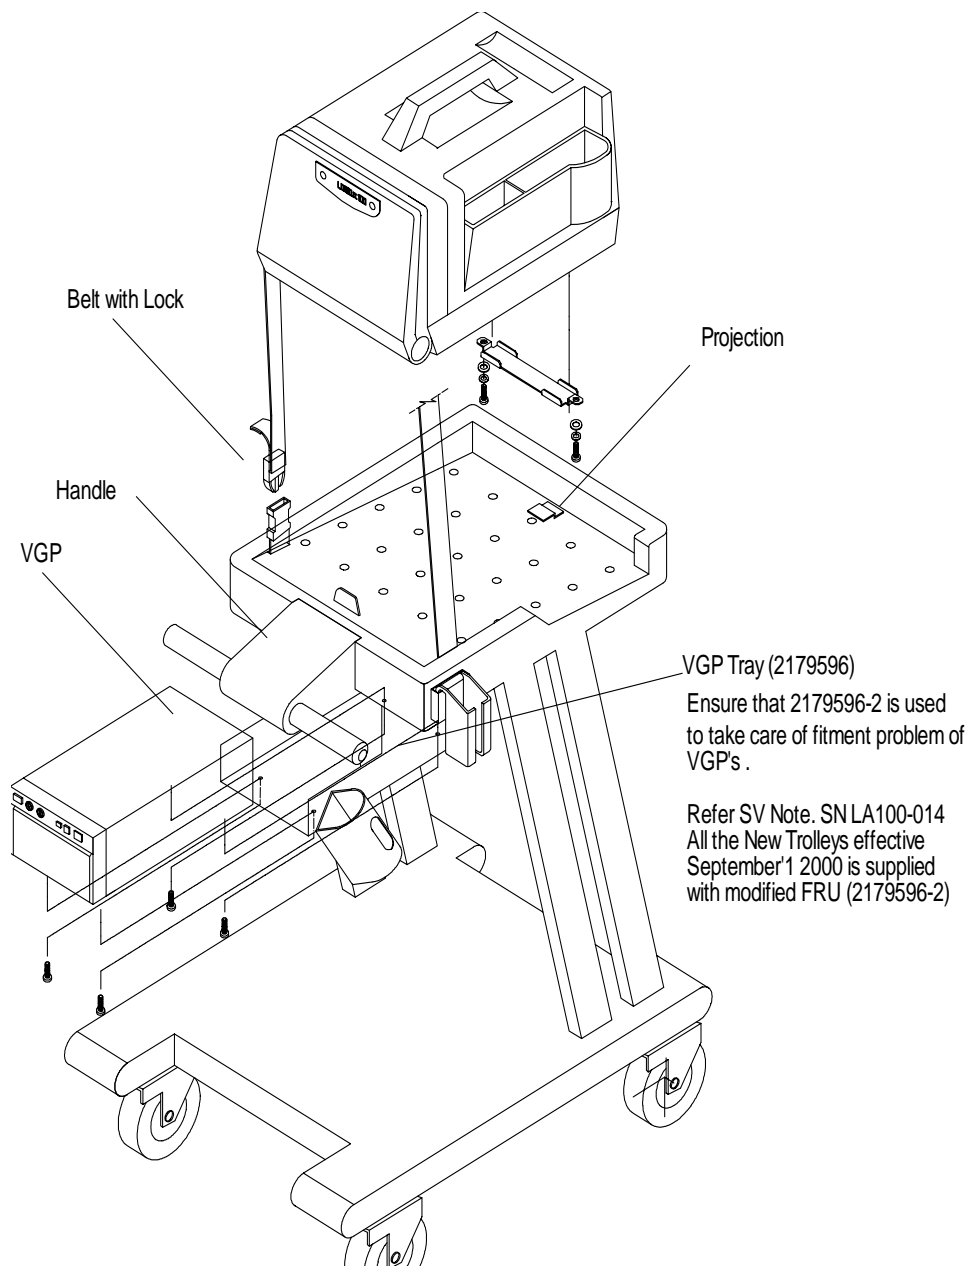

Figure 3-22 Installation of LOGIQ™ α 100/LOGIQ™ 100 PRO with the Trolley
- 5.) Take the belt (provided in the kit) over the unit and lock it. Refer Figure 3-22
- 6.) Release the Keyboard by pressing the lock release and make it rest on the handle. Refer Figure 3-22
- 7.) Insert the VGP inside the Printer Tray and fix from the bottom using M3X12 screw. Refer Figure 3-22